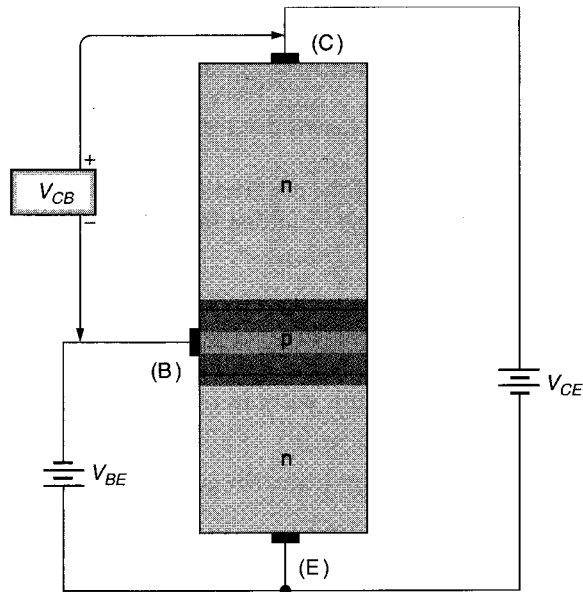

FIGURE 19.15 A BJT in cutoff.
**OBJECTIVE 4** ► Before you can understand the methods used to improve BJT switching time, we need to take a moment to discuss the causes of switching time. The various times are explained easily with the help of an illustration that appeared earlier in the text. Figure 6.6 is repeated as Figure 19.15.